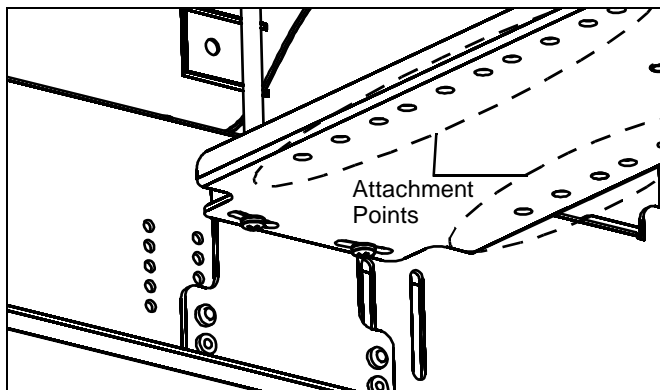

Figure 9
2. Attach the bracket with the projector to the SL151i, adjusting left or right by using the various attachment points in the SL151i. (See Figure 9)